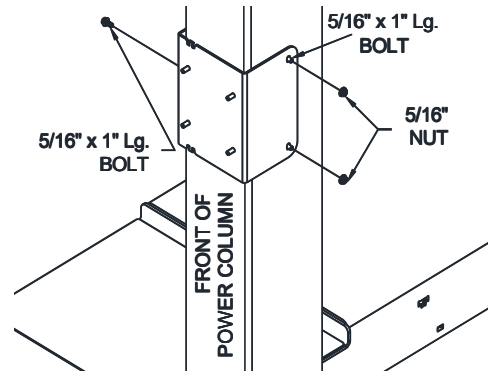

Fig 21a – Power Unit Bracket
- 51) **POWER COLUMN ONLY** – To install the Power unit, slide the Power Unit Bracket in place. On the open side of the column screw in the 5/16" x 1" flange head bolt, see **Fig 21a**. Using the nuts at the top of the column to lower the lock ladder until it contacts the top of the column baseplate. Now look inside the column, the 2 upper holes for the power unit should be visible through the lock ladder window. Insert two 5/16" x 1" flange head bolts from the inside out and screw on the two 5/16 nuts. **Note:** The bracket may need to be pivoted to align the bracket holes with the column holes.